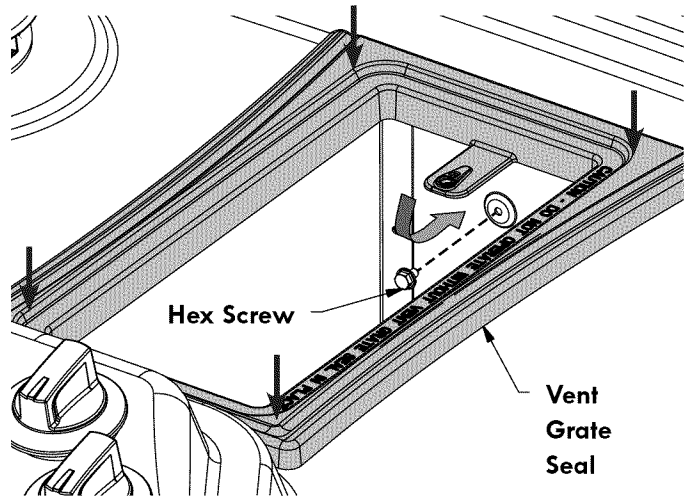

Figure 30
- Carefully place vent grate seal over the vent chamber on the cooktop as shown in Figures 30 - 31. Make sure the collar on the bottom of the seal is fully inserted into the vent opening. Remove the 1/4" hex head screw located in the vent chamber underneath the tab on the vent grate seal. Bend the tab on the vent grate seal down into the vent chamber and secure it with the hex head screw.